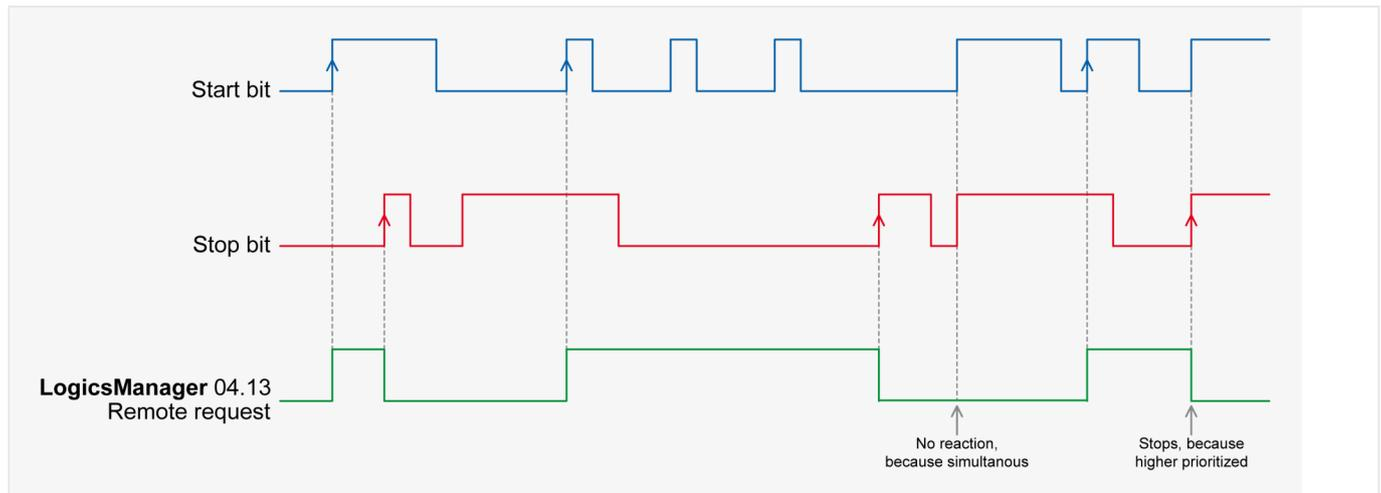

Fig. 265: Command variable
- The command variable "04.13 Remote request" changes to "0" (low) if the stop bit (ID 503, bit 1) changes from "0" to "1" (↪ Fig. 265).